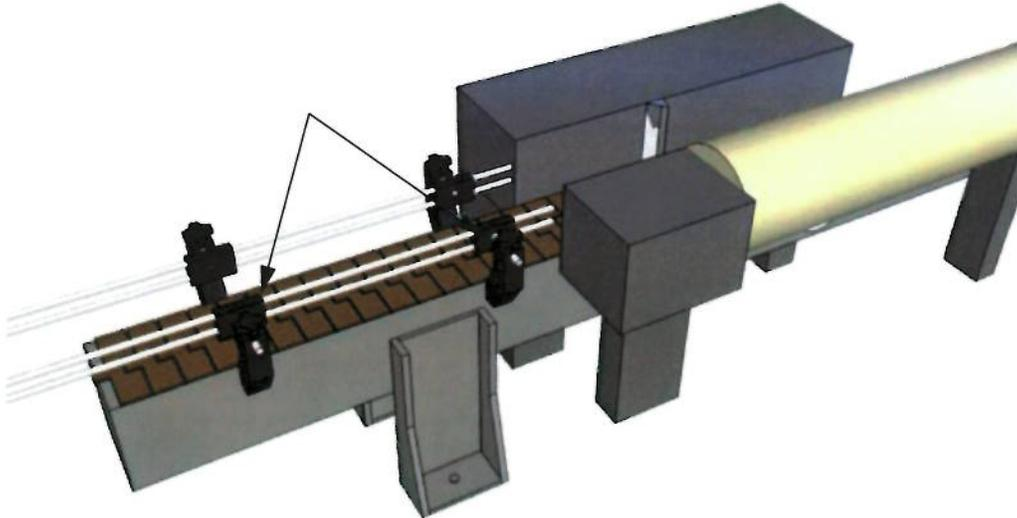

fig.13
- Release locking knobs (fig.13).